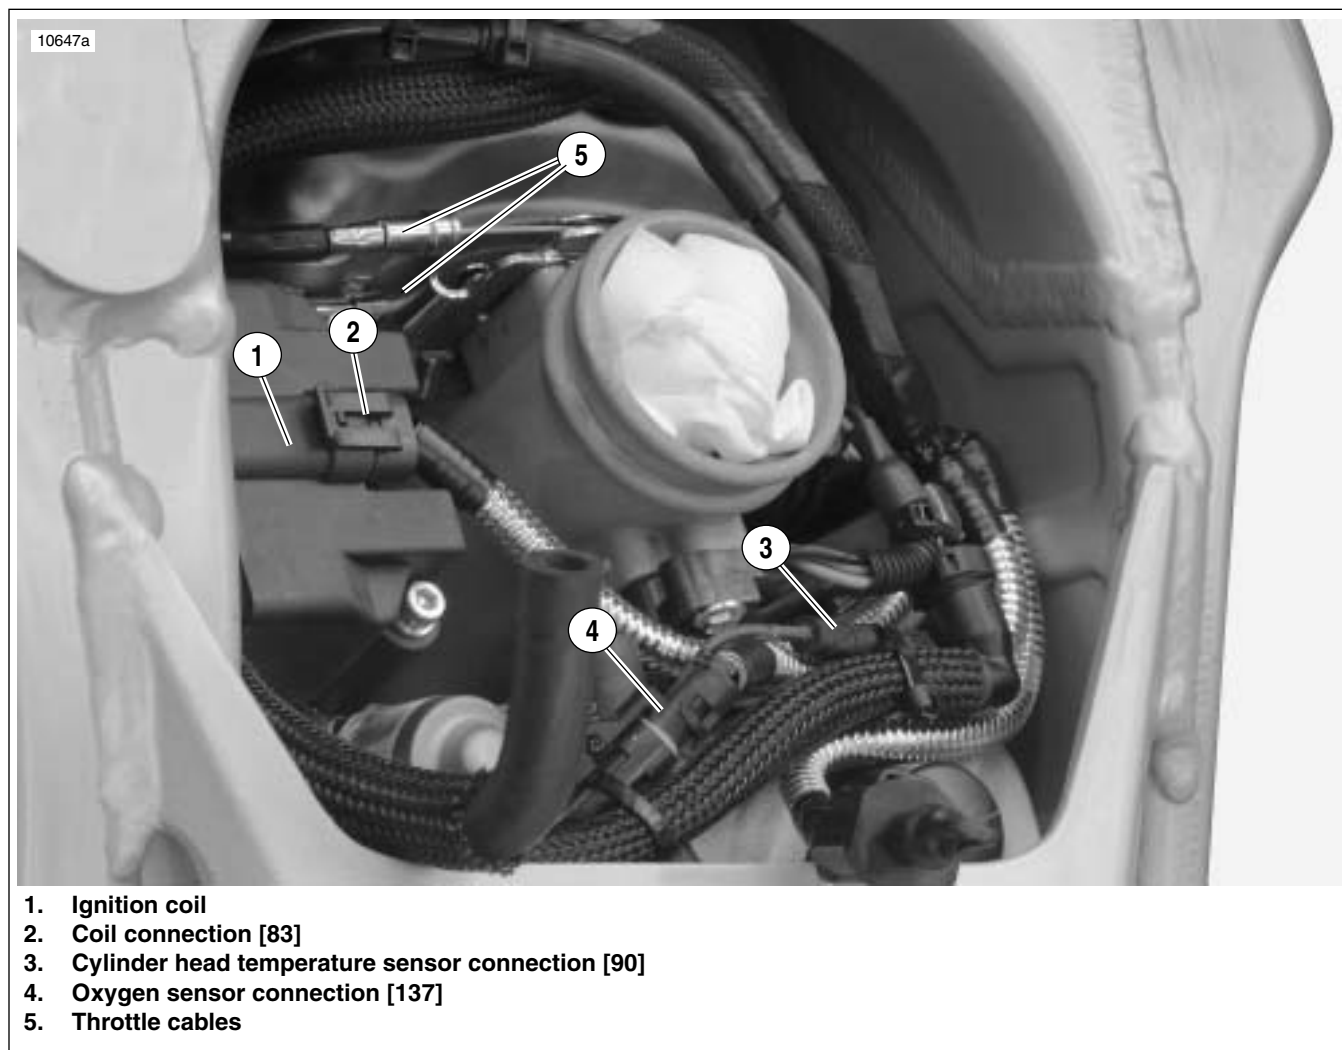

Figure 3-55. Electrical Connections and Throttle Cables (Typical)
36. See Figure 3-55. Connect throttle cables (5) to induction module/throttle body. See 1.16 THROTTLE CABLE AND IDLE SPEED ADJUSTMENT.
- a. Temperature sensor [90] (3).
- b. Oxygen sensor [137] (Install cable strap on harness) (4).
38. See Figure 3-55. Install the ignition coil (1) and spark plug wires and connect [83] (2). Tighten ignition coil fasteners to 120-144 **in-lbs** (13.6-16.3 Nm).